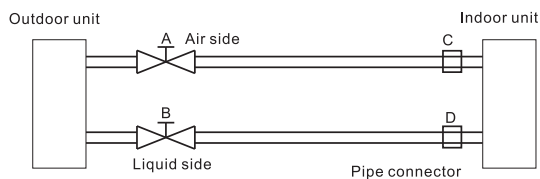

Fig 19
■ If the connection pipe is no more than 5 meters, use refrigerant in outdoor unit to exhaust the air (50-100 g refrigerant is charged for emptying the pipe before the outdoor unit is delivered, refer to Fig 19).
- ① Screw down the nuts at A, B, C, D joint completely.
- ② Turn on the nut of the Valve B with the hexagon wrench and then turn the valve core 45° anti-clockwisely for 10 seconds with the inner-hexagon wrench, then tighten the union A.
- ③ Have the leak test at A, B, C, D joint and then press the core of Valve A to exhaust the air for 20 seconds and then screw down the service valve.
- ④ Open Check valve B and A completely with the inner-hexagon wrench, then tighten nuts of them.